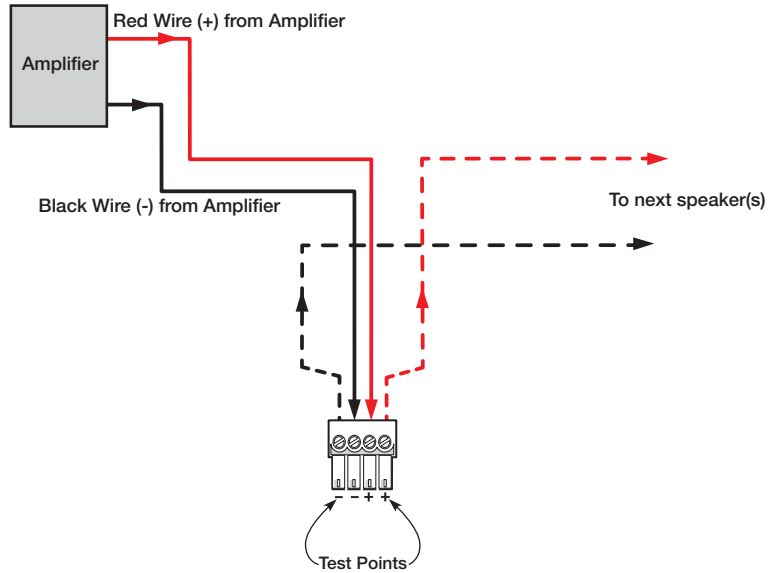

Figure 38. Impedance Test Points — Loop-through Configuration
- The impedance of the speakers downstream of the one being tested can be measured while the system is on by connecting to the outer (LOOP) terminals of the captive screw connector, as shown in figure 38.